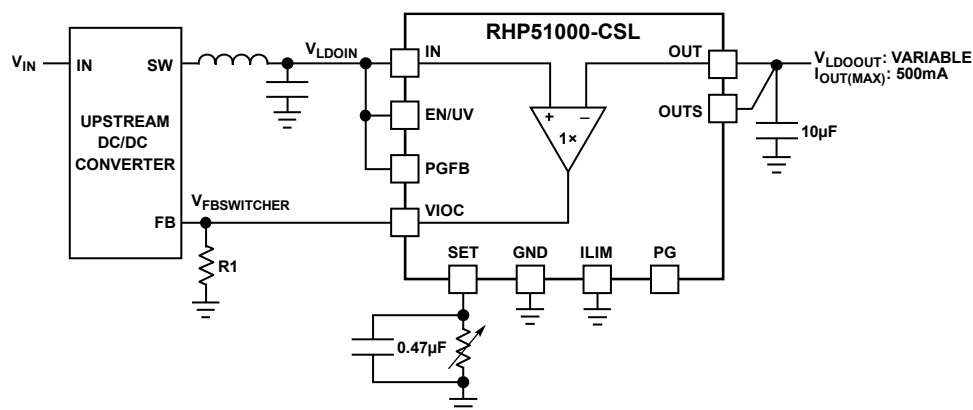

Figure 72. VIOC Basic Operation
The VIOC pin controls an upstream switching converter (for example, buck, boost, or buck-boost) to maintain a constant voltage across the RHP51000-CSL, regardless of the output voltage of the LDO regulator. This constant voltage maximizes efficiency while maintaining PSRR performance. The VIOC pin is the output of a fast unity-gain amplifier that measures the difference between IN and OUT or 1.5V, whichever is higher. As shown in Figure 72, the VIOC feature is simple to use. Connect the VIOC pin to the feedback (FB) pin of the upstream switching converter, which regulates the input-to-output differential of the RHP51000-CSL to the feedback voltage of the switching converter. When paralleling multiple RHP51000-CSL devices, connect the VIOC pin of one of the RHP51000-CSL devices to the feedback pin of the upstream switching converter and float the remaining VIOC pins.